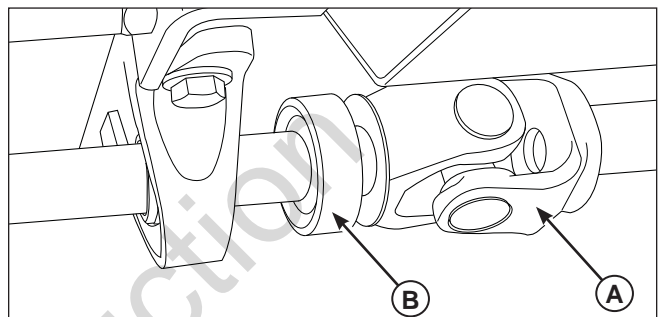

Figure 16. Drive Shaft
8. Locate the drive shaft (**A, Figure 16**) under the machine and disconnect it by pulling the drive shaft collar (**B**) toward the universal joint.